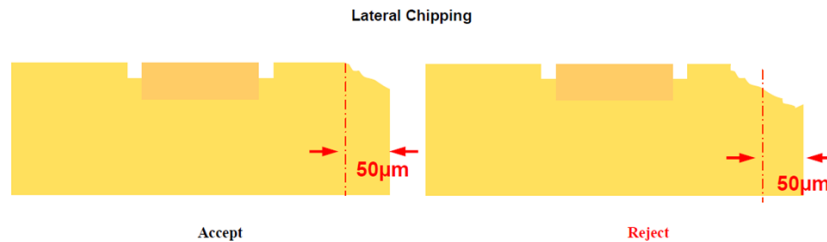

Fig. 1
- Chipping less than 50 $\mu$ m in the corner of a chip or bar has no effect on the lasing modes and the subsequent soldering process is within specs, as shown in Fig.1.